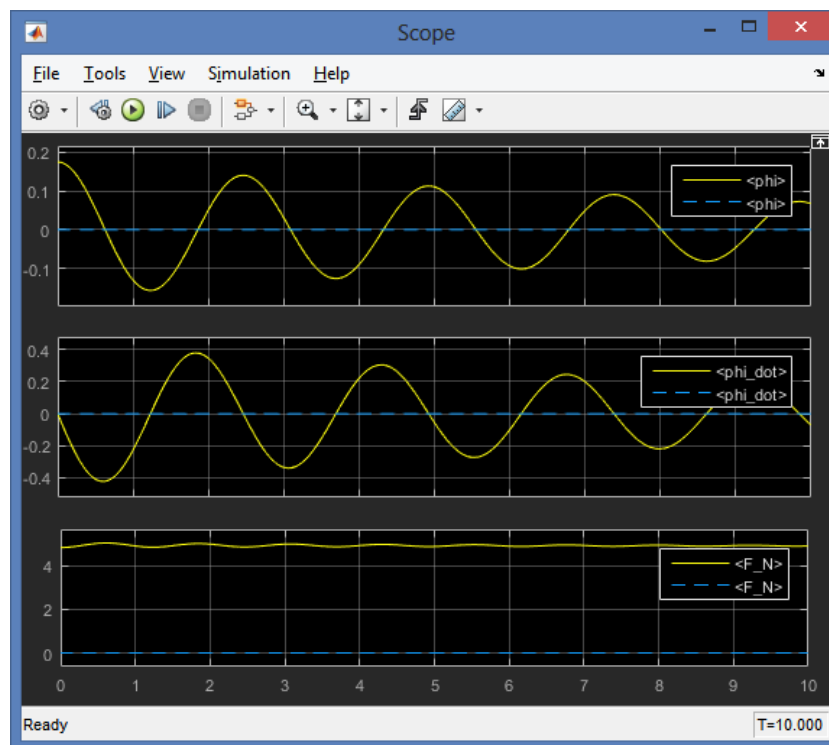

Figure 2-3: Simulation output for non-linear simulation
(7) Add a second subsystem on the root level, rename it to `visualization`.
- (8) Now the simulation can be run. Ignoring the warnings for now, the Scope should look like Figure 2-3.